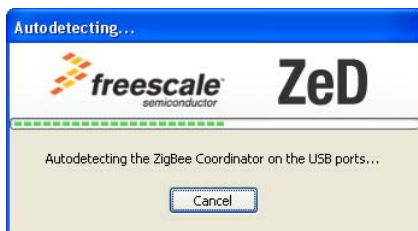

Figure 10. Automatic Detection of the ZigBee Coordinator Port
3. After pressing the Next>> button, ZeD tries to automatically detect the COM port that corresponds to the DCU board serving as the ZigBee Coordinator. Figure 10 shows the ZeD window as it tries to autodetect the DCU board.